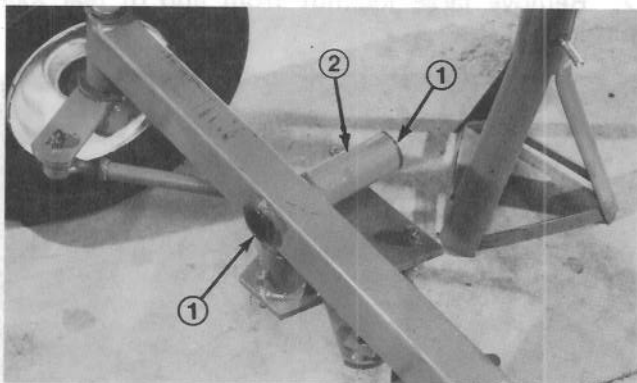

Figure 42
6. Using pin punch and hammer, drive both bushings out of axle (Fig. 42). Clean inside of axle to remove dirt and foreign matter.
7. Notice groove on inside of new bushing. When it is installed, open end of groove must be to the outside of axle pivot tube. Apply grease to the inside and outside of the new bushings. Use an arbor press to drive bushings into the top and bottom of the axle pivot tube. Bushings must be flush with axle tube (Fig. 42).